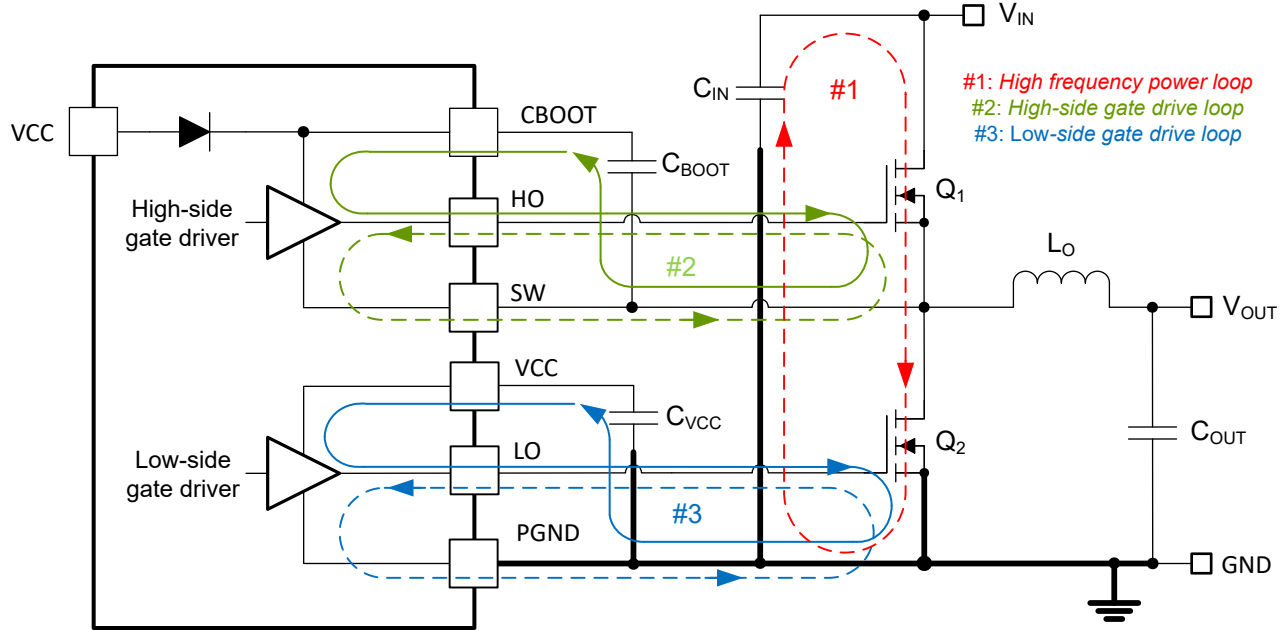

图 9-47. DC/DC Regulator Ground System With Power Stage and Gate Drive Circuit Switching Loops
Proper PCB design and layout is important in a high-current, fast-switching circuit (with high current and voltage slew rates) to achieve a robust and reliable design. As expected, certain issues must be considered before designing a PCB layout using the LM5149. The high-frequency power loop of a buck regulator power stage is denoted by loop 1 in the shaded area of 图 9-47. The topological architecture of a buck regulator means that particularly high di/dt current flows in the components of loop 1, and it becomes mandatory to reduce the parasitic inductance of this loop by minimizing its effective loop area. Also important are the gate drive loops of the high-side and low-side MOSFETs, denoted by 2 and 3, respectively, in 图 9-47.
- Loop 1: The most important loop area to minimize is the path from the input capacitor or capacitors through the high- and low-side MOSFETs, and back to the capacitor or capacitors through the ground connection. Connect the input capacitor or capacitors negative terminal close to the source of the low-side MOSFET (at ground). Similarly, connect the input capacitor or capacitors positive terminal close to the drain of the high-side MOSFET (at  $V_{IN}$ ). Refer to loop 1 of 图 9-47.
- The SW pin connects to the switch node of the power conversion stage and acts as the return path for the high-side gate driver. The parasitic inductance inherent to loop 1 in 图 9-47 and the output capacitance ( $C_{OSS}$ ) of both power MOSFETs form a resonant circuit that induces high frequency (greater than 50 MHz) ringing at the SW node. The voltage peak of this ringing, if not controlled, can be significantly higher than the input voltage. Make sure that the peak ringing amplitude does not exceed the absolute maximum rating limit for the SW pin. In many cases, a series resistor and capacitor snubber network connected from the SW node to GND damps the ringing and decreases the peak amplitude. Provide provisions for snubber network components in the PCB layout. If testing reveals that the ringing amplitude at the SW pin is excessive, then include snubber components as needed.
- Loop 2: high-side MOSFET,  $Q_1$ . During the high-side MOSFET turn-on, high current flows from the bootstrap (boot) capacitor through the gate driver and high-side MOSFET, and back to the negative terminal of the boot capacitor through the SW connection. Conversely, to turn off the high-side MOSFET, high current flows from the gate of the high-side MOSFET through the gate driver and SW, and back to the source of the high-side MOSFET through the SW trace. Refer to loop 2 of Figure 9-47.
- Loop 3: low-side MOSFET,  $Q_2$ . During the low-side MOSFET turn-on, high current flows from the VCC decoupling capacitor through the gate driver and low-side MOSFET, and back to the negative terminal of the capacitor through ground. Conversely, to turn off the low-side MOSFET, high current flows from the gate of the low-side MOSFET through the gate driver and GND, and back to the source of the low-side MOSFET through ground. Refer to loop 3 of Figure 9-47.